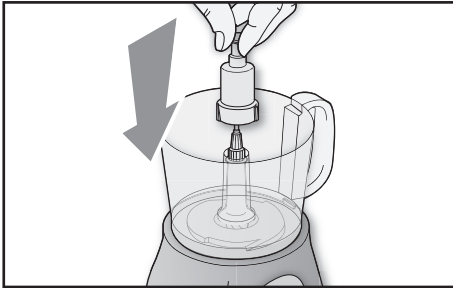

Fig. 4
- Fit the blade support (L) onto the motor shaft (C) inside the bowl (D) (Fig. 4).